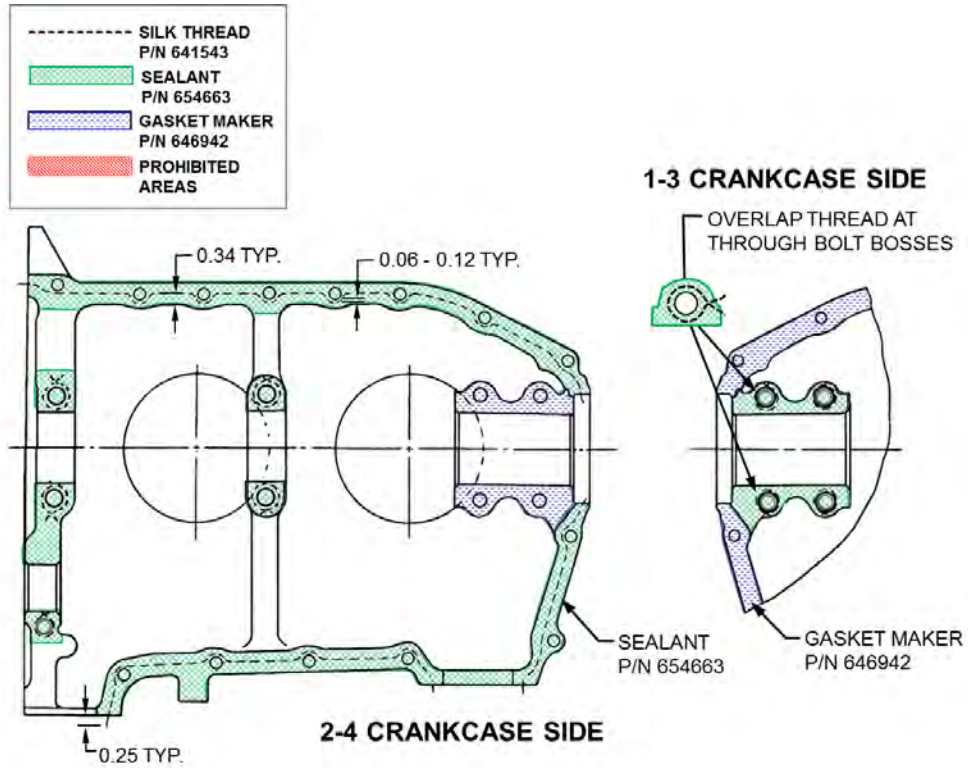

Figure 3. Threading Diagram, C75, C85, C90, O200 Crankcase
4. Apply and position P/N 641543 (a continuous, single piece of grade "D" silk thread) on the 2-4 case half as specified (see Figures 3 and 4, page 13). Ensure the free ends of your thread are covered by gaskets (except at the nose oil seal).